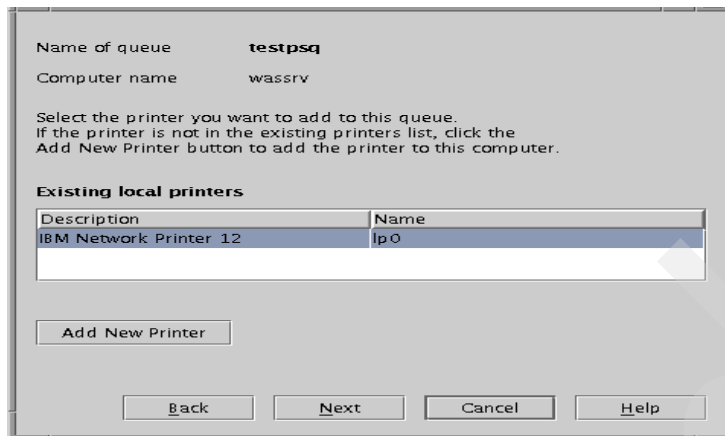

Figure 37. Selecting the existing printer for the second queue
16. In the panel shown in Figure 37 on page 215, select **IBM Network Printer 12** and click **Next** instead of choosing Add New Printer, because the printer device has been installed already in this case.